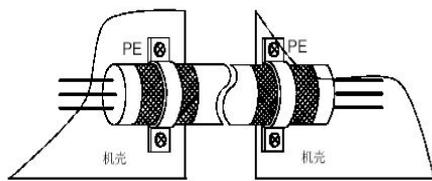
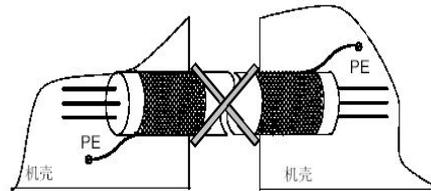

Fig. A-4 Correct shielded grounding
Fig. A-5 Incorrect shielded grounding
Normally control cable should be a shielded cable, and shielded metal mesh should be connected to metal cabinet by 360° ring type clamp fixed. Fig. A-4 shows the correct connection. Shielded connection shown in Fig. A-5 is wrong.
3) Motor cable must use shielded cable, and the best to have metal interlocked conduit, or double layers of metal mesh shielded cable. The 360° ring type clamp (such as Fig. A.4) must be used as metal cable clamp to fix the shielded layer of motor cable